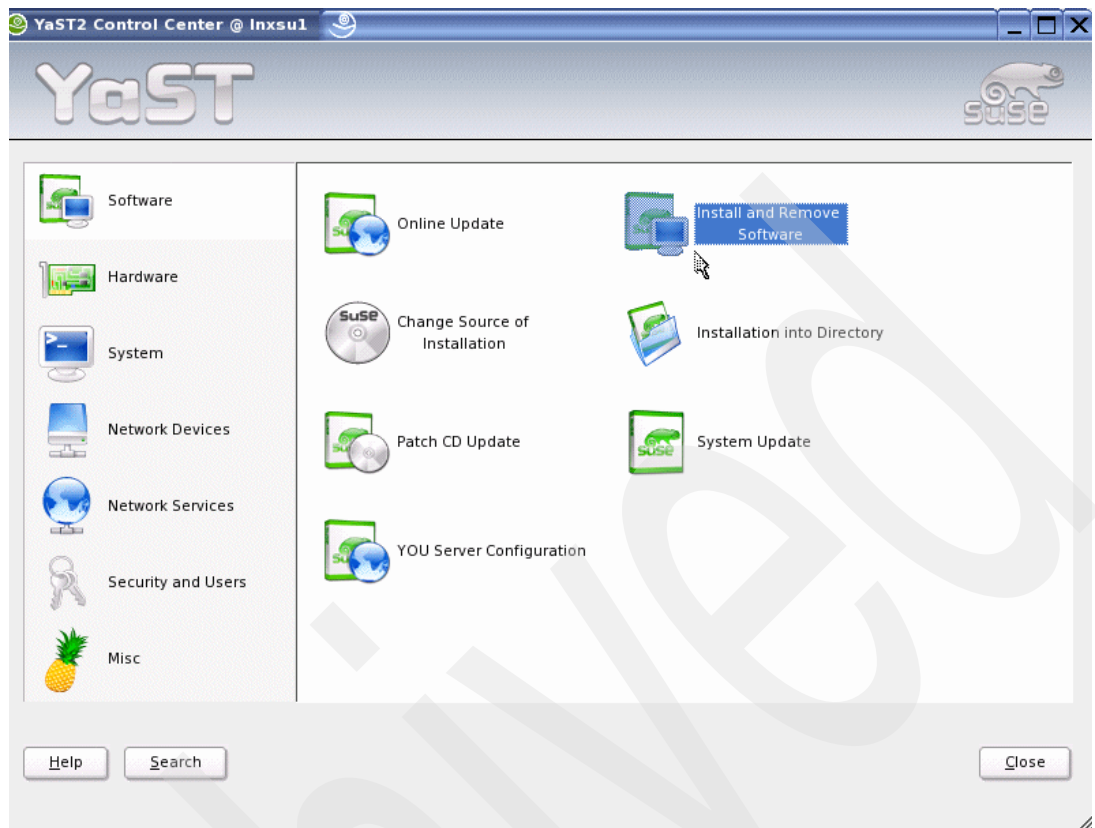

Figure D-5 YaST2 Control Center screen - Install or Remove Software option
3. In the YaST2 Control Center, we clicked **Install and Remove Software**, as seen in Figure D-5 on page 304.